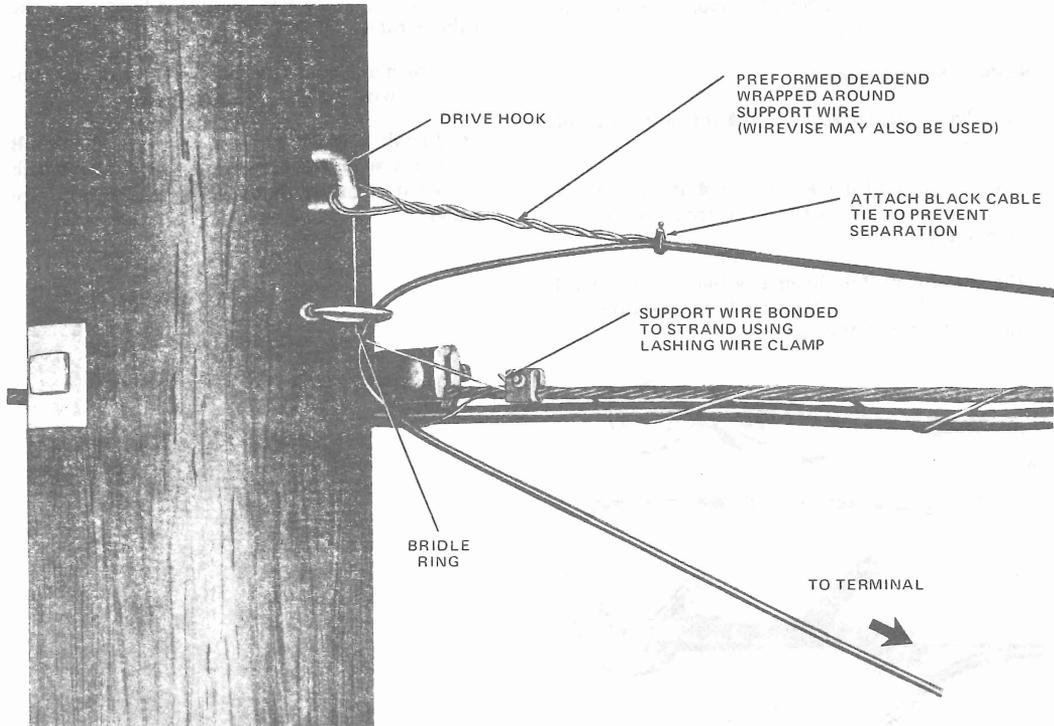

Fig. 11—Completed Pole Attachment
- (3) Cut the wire to the required length making an allowance for a 6-inch drip loop.
- (4) Cut the web and separate the support wire from the jacket to approximately 8 inches from the pole attachment.
- (5) Place a black plastic cable tie around the jacket and support wire at the point of separation to prevent further splitting of the web.
- (6) Cut the support wire at the required length allowing sufficient length for bonding to the cable strand.
- (7) Crush and strip the PVC jacket from the support wire back to the cable tie(s).
- (8) Install a DE-2506 dead end or a No. 5056B wirewise on the bare support wire and attach to pole attachment. Release and remove drop wire puller.
- (9) Complete the pole attachment as shown in Fig. 11, 12, and 13.